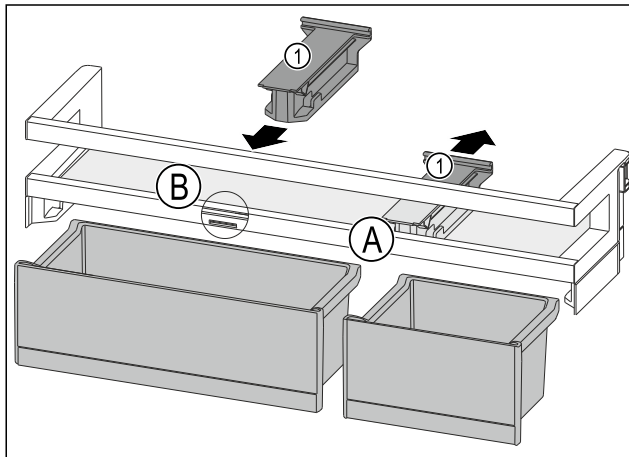

Fig. 90
- ▶ Take off the holding part Fig. 90 (1) in position Fig. 90 (A) backwards.
- ▶ Insert the holding part Fig. 90 (1) in position Fig. 90 (B).